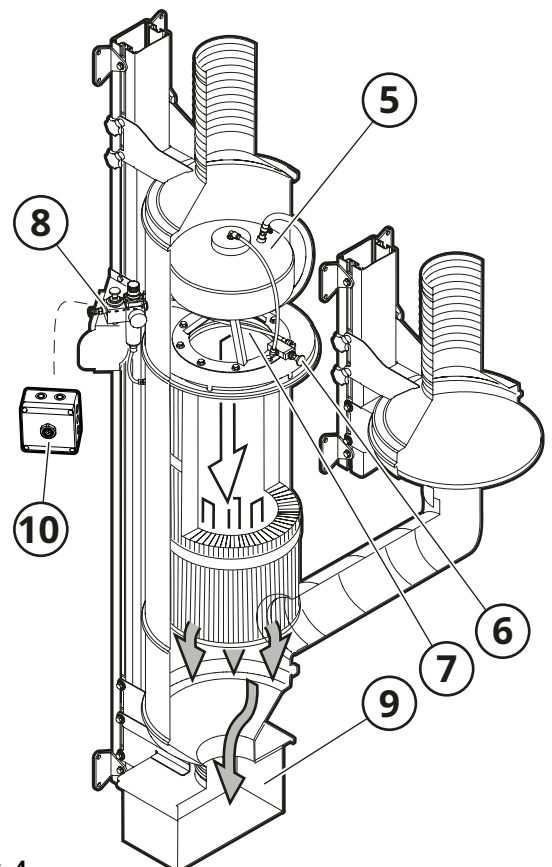

Fig. 4
Purging is carried out (5, **Fig. 4**) by manually pressing the compressed air purging button (6) so that a pulse of compressed air blows clean the filter of impurities. The pulse of compressed air comes from the blow nozzle (7). The strength of the pulse can be adjusted using the compressed air regulator (8).
An audible alarm (10, **Fig. 4**) signals when the air flow is less than 600 m³/h, indicating that the machine's suction capacity is insufficient.